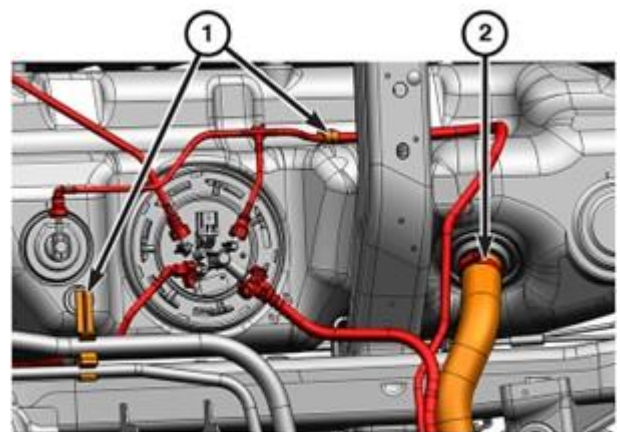

Figure 84 – Tank Connections
- 161. Install the fuel vent lines into the retaining clips (1) (Figure 84).
- 162. Install the fuel fill hose and securely tighten the clamp (2) (Figure 84).